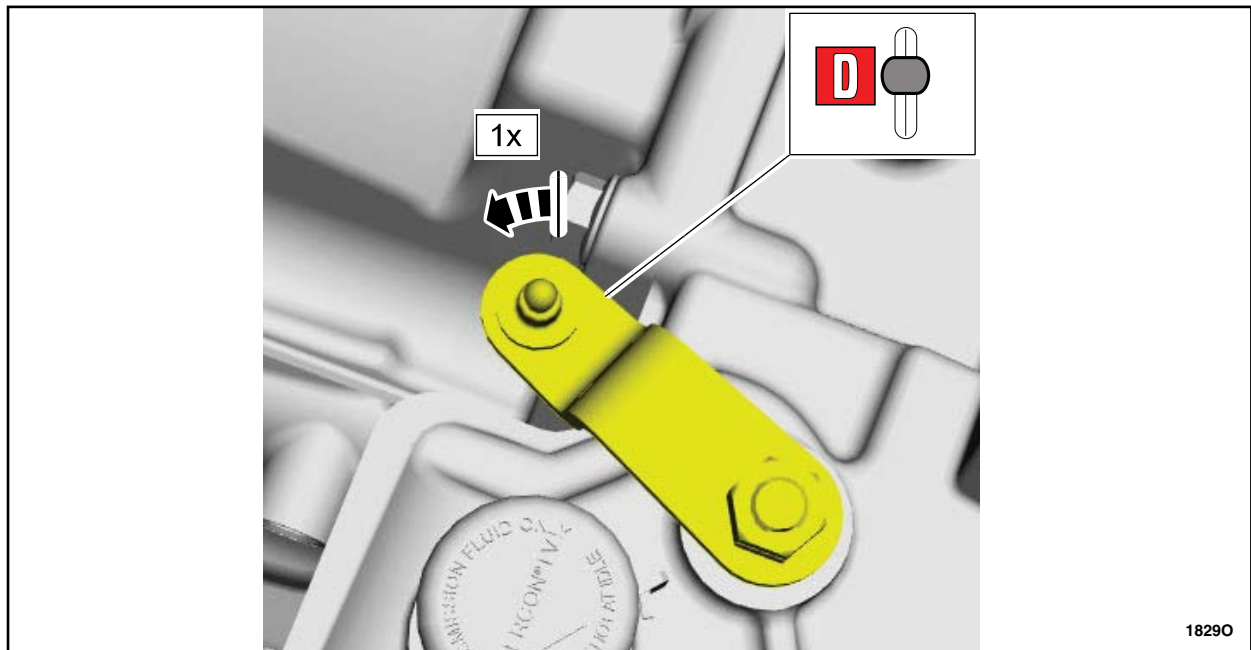

FIGURE 12
12. Rotate the manual control lever counterclockwise 1 detent into Drive (D). See Figure 12.